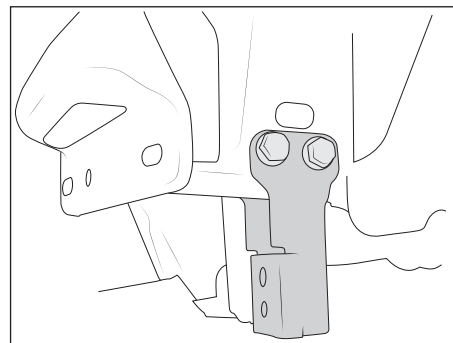

Figure 7
9. Remove compatibility hardware on both sides if equipped (fig. 7).
3. Re-install the compatibility hardware if equipped (see fig. 7) and LEAVE LOOSE at this time.